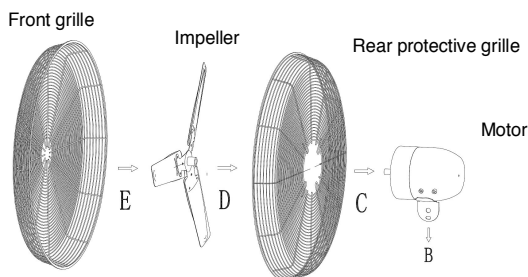

Fig. 3: Assembly
Step 6: Mount the remaining components (rear guard grille, impeller, front grille) according to the mounting illustration (Fig. 3).